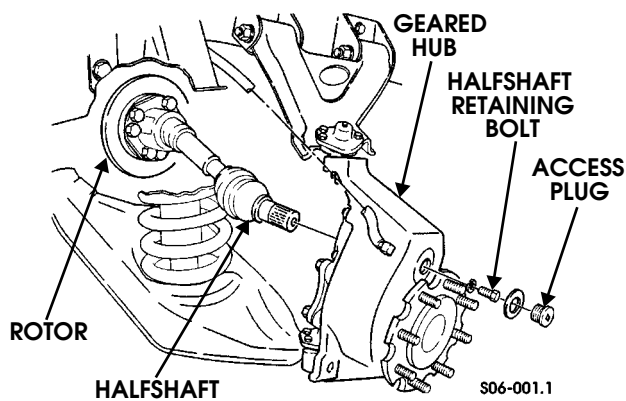

Figure 9-20: Halfshaft and Geared Hub
5. Apply thread-locking compound to halfshaft retaining bolt and secure halfshaft to geared hub with lockwasher and halfshaft retaining bolt. Tighten halfshaft retaining bolt to 37 lb-ft (50 N•m) (Figure 9-20).